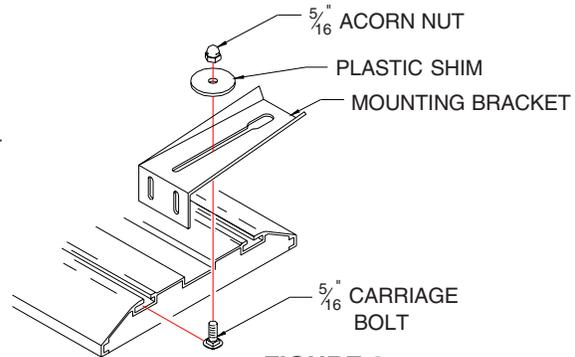

FIGURE 6
- 5) If the ArrowStik is to be front mounted, slide the two carriage bolts into the front groove as shown in Figure 6. Otherwise, slide both carriage bolts into the rear groove.
- 7) Loosely mount the ArrowStik® bracket to the lightbar as shown in Figure 6.